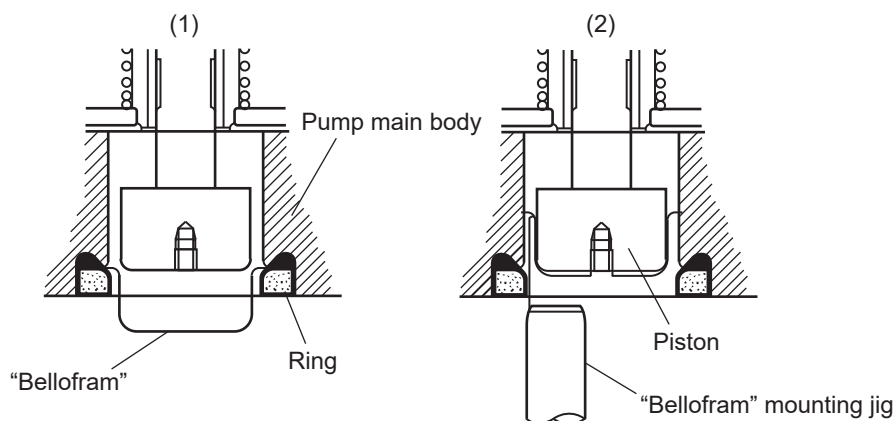

Figure 8.11 Installation of the bellofram
- (1) Turn on the maintenance mode and stop the operation of the liquid flow pump from the solenoid valve/pump operation screen. Take measures to prevent the reagent from flowing out of the reagent tank.
- (2) Remove the transparent plate of the liquid flow pump. Loosen the four screws on the front.
- (3) Remove the ring that holds the flange of the bellofram.
- (4) Remove the retainer screwed to the piston.
- (5) Remove the bellofram in use and install a new bellofram. To install, first press the flange of the bellofram with a ring. Use the attached tool and fold the bellofram so that it covers the piston (Figure 8.11).